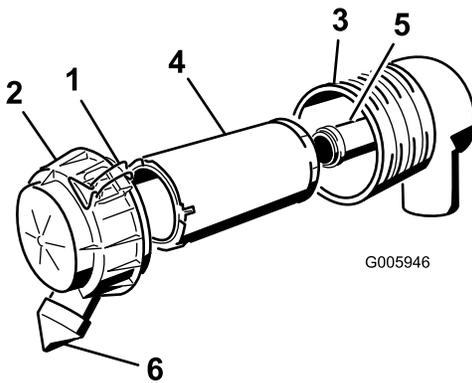

Figure 29
3. Release the latches on the air cleaner and pull the air cleaner cover off of the air cleaner body (Figure 29).
6. Gently slide the primary filter out of the air cleaner body (Figure 29). Avoid knocking the filter into the side of the body.
9. If you are replacing the safety filter, carefully slide the new filter into the filter body (Figure 29).
10. Carefully slide the primary filter over the safety filter (Figure 29). Ensure that it is fully seated by pushing on the outer rim of the filter while installing it.
11. Install the air cleaner cover with the side indicated as UP facing up and secure the latches (Figure 29).